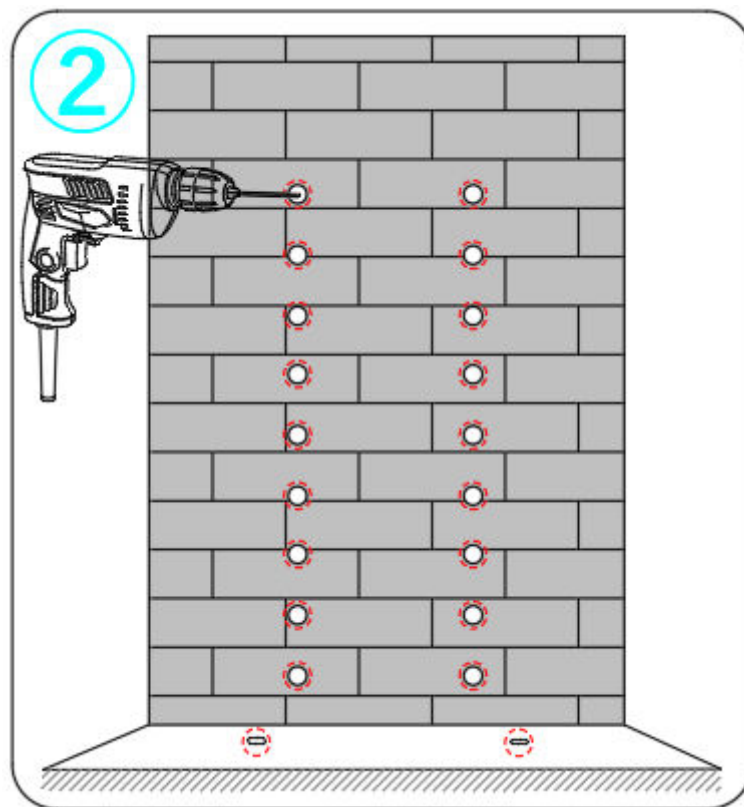

FIGURE 3.3: STEP2
- Step 2: Move the battery and wall mount pack away, then drill holes (diameter 13mm, depth 65mm) at the marked locations with an electric drill, as shown in Figure 3.3.